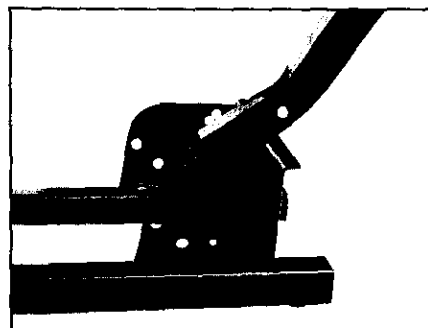

Figure 6
7. Attach the left curved legs to the frame using (1) 1/4" - 20 x 2" carriage bolt, (1) 5/16" flat washer and (1) 1/4" - 20 Nylok nut per leg. Use the hole which is second from the right, closest to the frame tube to attach the leg. Pass the bolt through the flat washer, then through the hole in the outside of the frame, through the top hole in the leg, through the bracket on the inside of the frame, and secure with 1/4" - 20 Nylok nut. Figure 6 and 7.